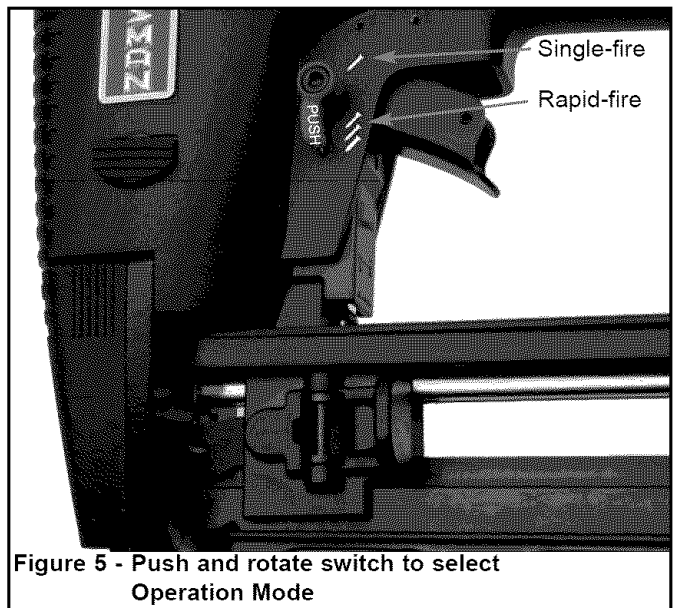

Figure 5 - Push and rotate switch to select Operation Mode
Refer to Figures 5 through 9 (pages 4 and 5).
- The tool is equipped with a rotating switch that can be set to rapid-fire or single-fire mode (see Figure 5). When the switch is set to single-fire mode, the tool will not drive a second fastener until the trigger is fully released and pulled again.